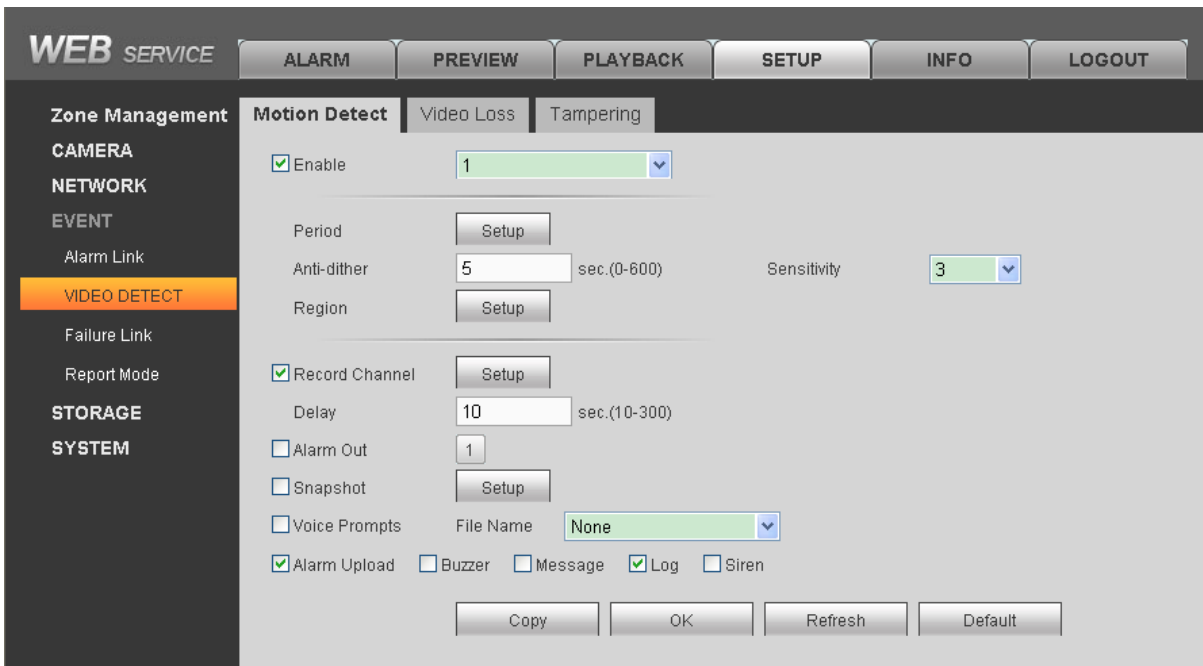

Figure 4- 14
Step 1. Select SETUP>Event>Video Detect. See Figure 4- 14.